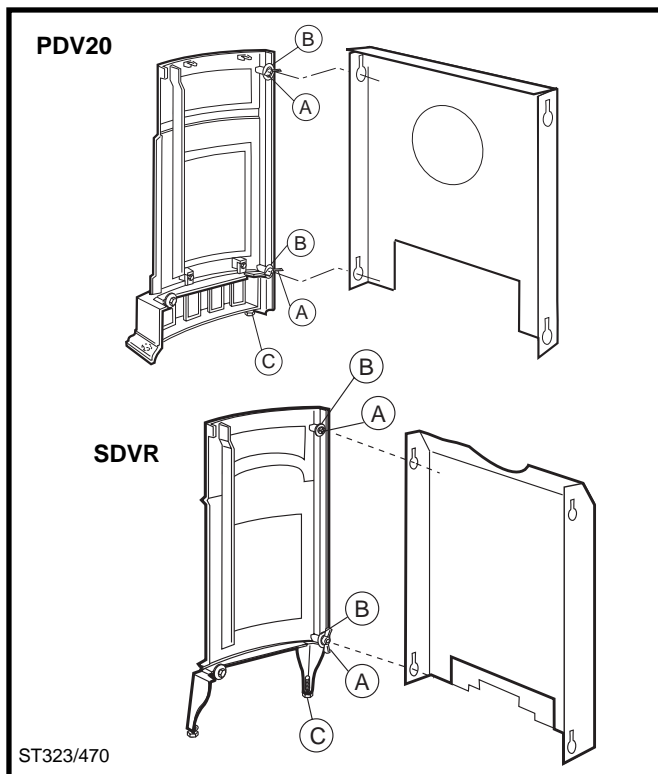

Fig. 13 Fasten the left side to the rear shroud.
1. Use only the rear shroud supplied with this firebox. Attach the rear shroud to the left side plate by aligning the key holes with the two wingbolts (A) installed in the side. (Fig. 13) If necessary, turn the wingbolts to orient the blades vertically. Slide the shroud downward to engage it behind each washer (B) and then tighten the wingbolts.